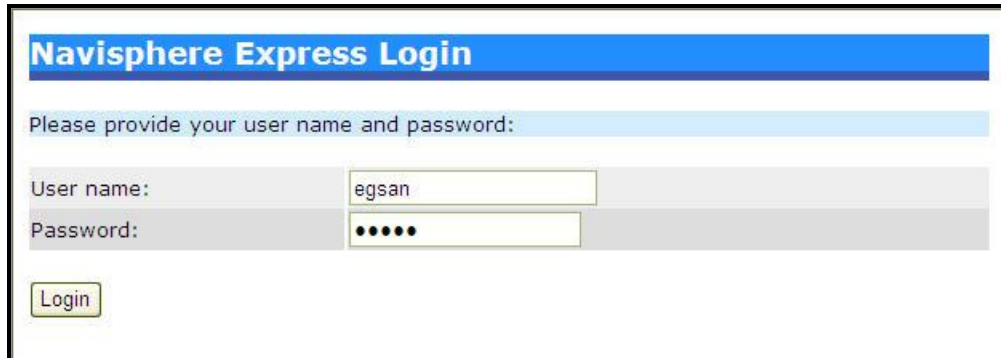

Figure 1.3: Logging into the Navisphere Express Console
2. Figure 1.3 will then appear prompting you to login to the **Navisphere Express Console**. Provide the credentials of the SAN administrator against **User name** and **Password**, and click the **Login** button to login.